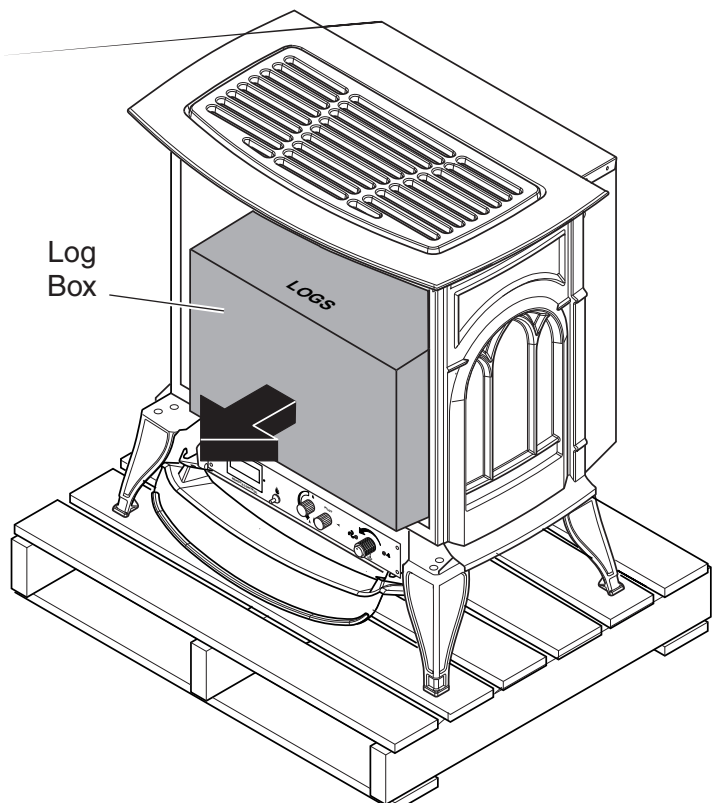

Figure 9 - Removing Log Box
3. Lift up on ash lip and pivot down to open control door. *See Figure 9.*
4. Lift up on front. Pivot bottom of front out. Remove front. *See Figure 9.*